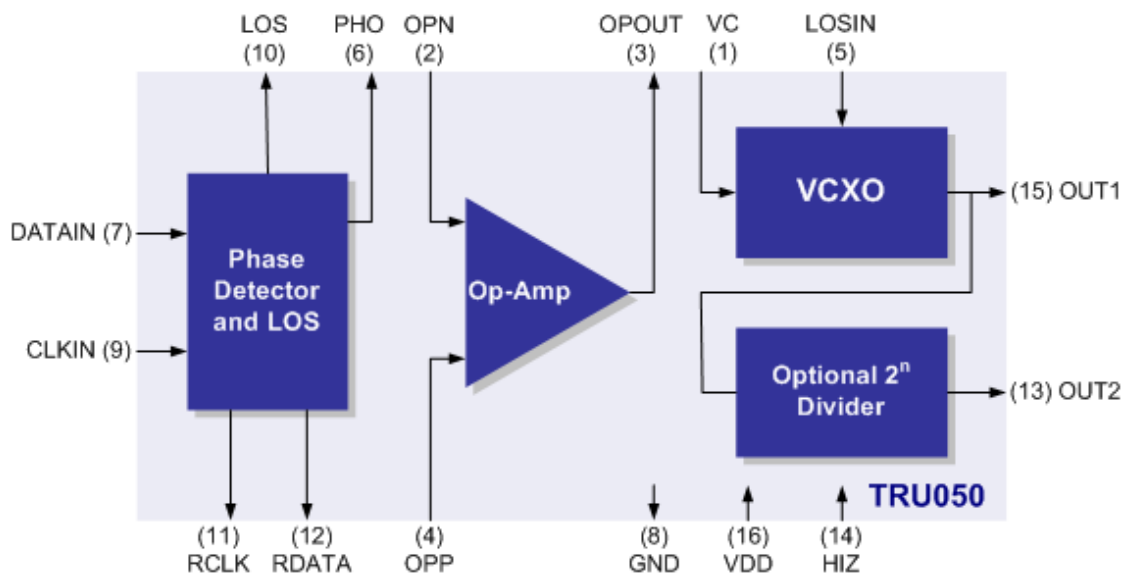
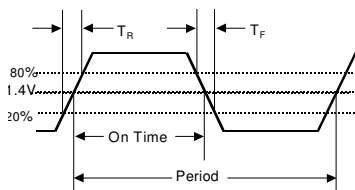

Figure 1. TRU050 Block Diagram
Figure 2. Output Waveform
2. Figure 1 defines these parameters. Figure 2 illustrates the equivalent five-gate TTL load and operating conditions under which these parameters are tested and specified. Loads greater than 15 pF will adversely effect rise/fall time and duty cycle.